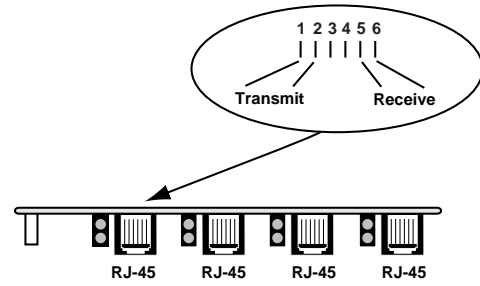
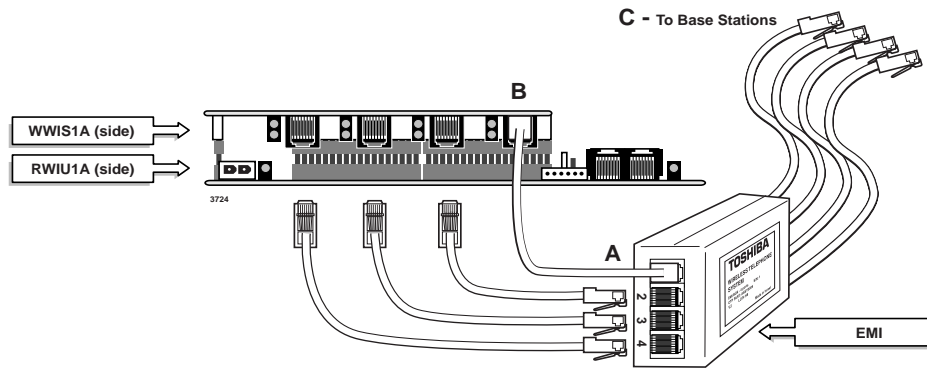

Figure 16-25 RJ-45 Pin Configuration 3512
Figure 16-26 EMI Connections to the RWIU/WWIS
3. Connect one end of each cable into the RJ-45 jacks on the RWIU/WWIS (Point B in Figure 16-26) and the other end (reversed) into the EMI box (Point A in Figure 16-26). The RJ-45 transmit and receive pins are shown in Figure 16-25.
4. Connect each end of the other set of cables into the RJ-45 jacks of the EMI box (Point C - To Base Stations in Figure 16-26) and run the opposite end out to the Base Stations.